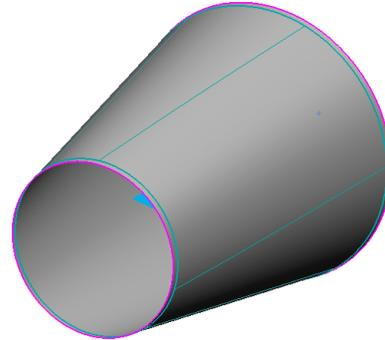

Figure 6–31
1. Open **UTILITIES_B.prt**. The model displays as shown in Figure 6–31.